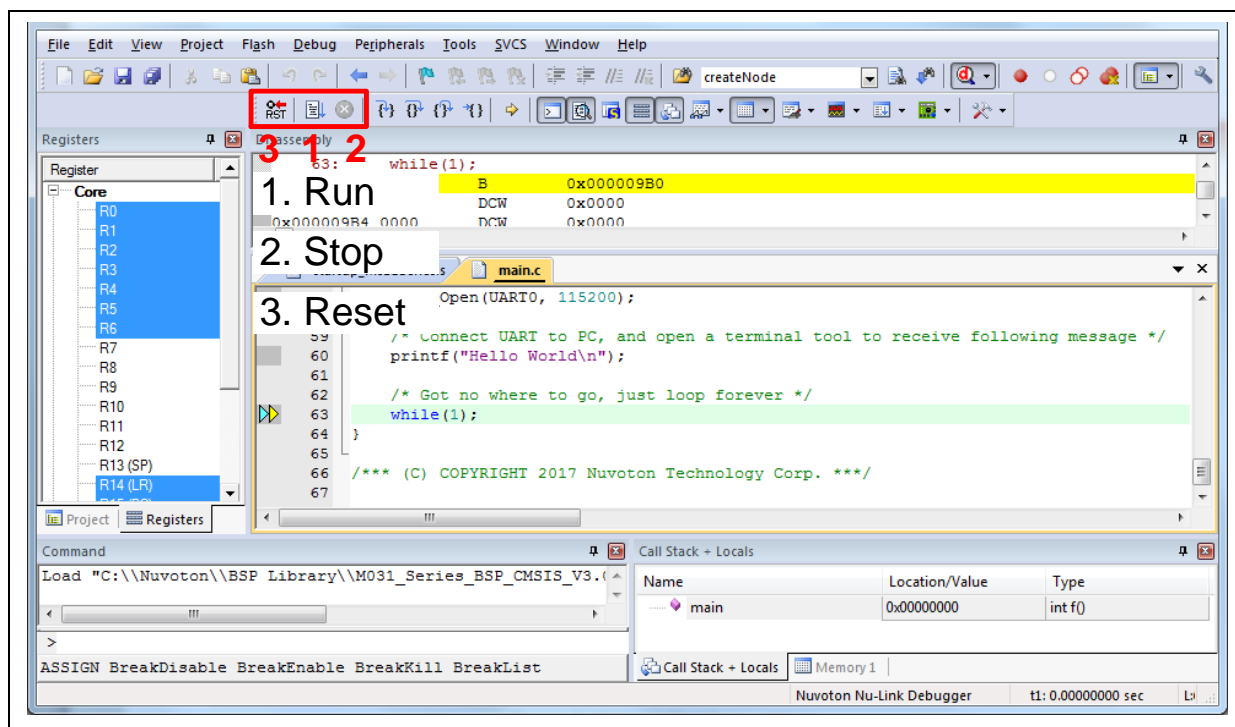
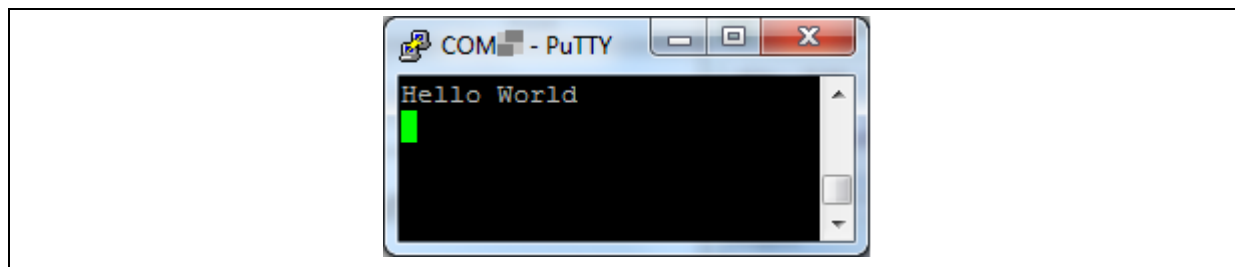

Figure 3-21 Keil MDK Debug Mode
Figure 3-22 Debug Message on Serial Port Terminal Windows
4. Figure 3-21 shows the debug mode under Keil MDK. Click "Run" and the debug message will be printed out as shown in Figure 3-22. User can debug the project under debug mode by checking